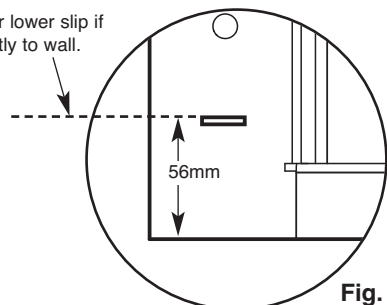

Fig. 30
1. Decorative marble or stone slips can be bonded directly to the wall (see Fig. 30), or for ease of removal can be installed using the Slips Kit.
1. To allow for removal of controls heat shield and manual operation of controls, the top edge of the lower slip should not be higher than the top of the slot in the fire box side flange (Fig. 30).